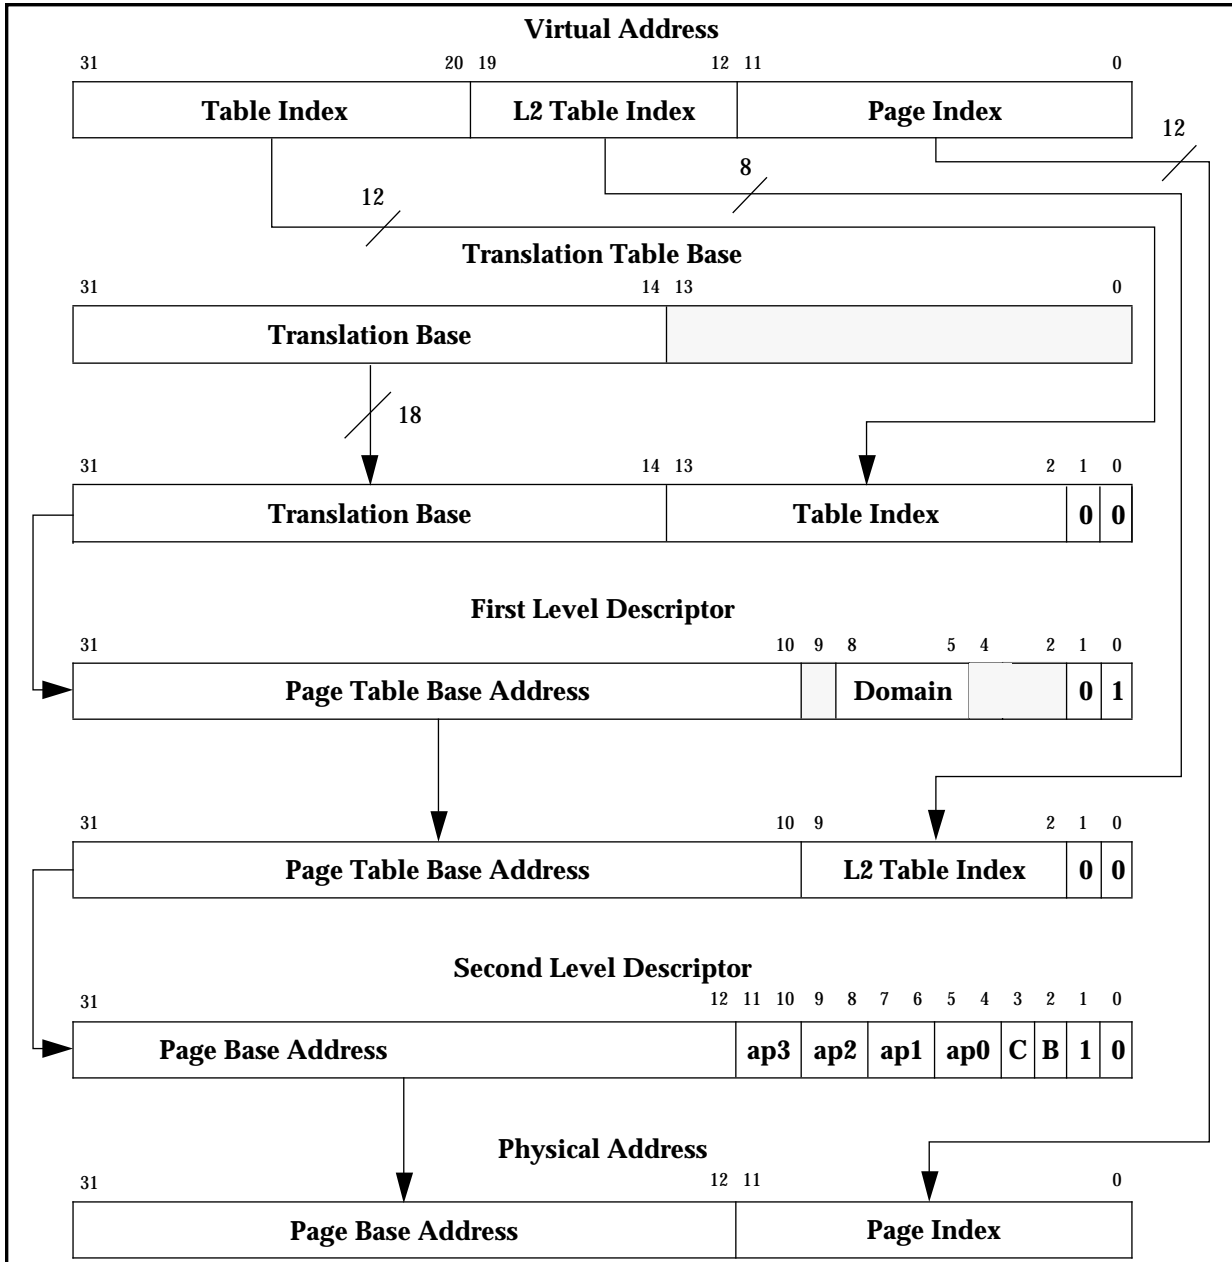
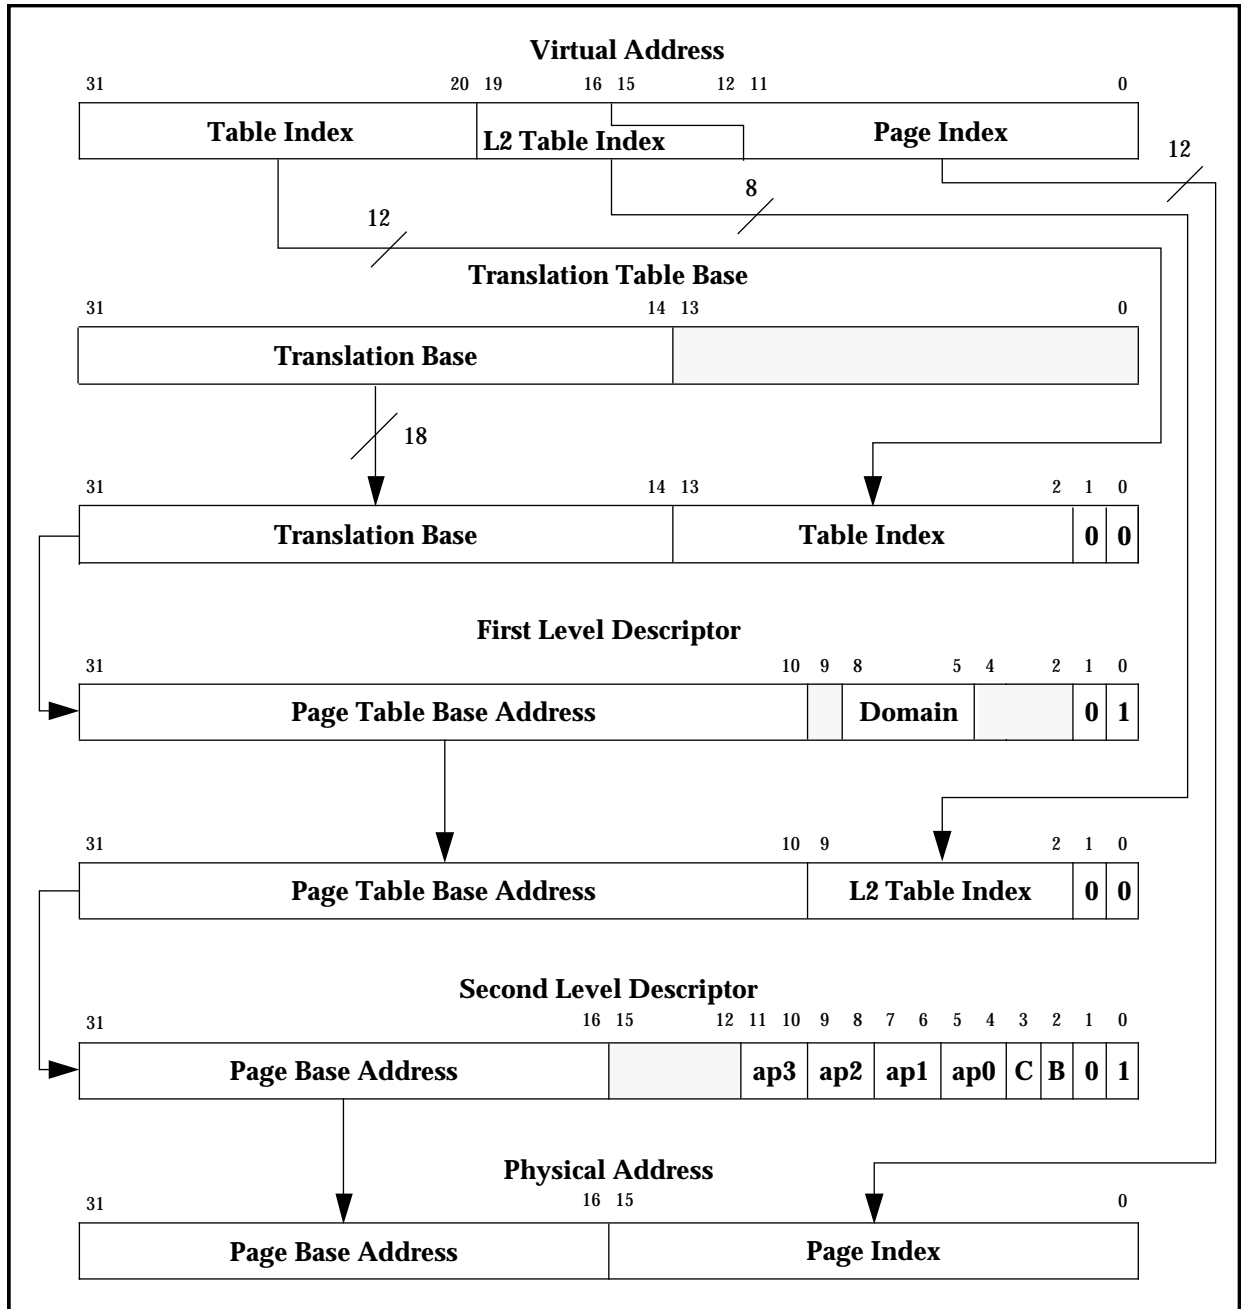

Figure 7-7: *Small page translation*
Figure 7-8: Large page translation
**Bits 31:10** form the base for referencing the Page Table Entry. (The page table index for the entry is derived from the virtual address as illustrated in Figure 7-7: Small page translation on page 7-10).
If the Level One fetch returns a Page Table Descriptor, this provides the base address of the page table to be used. The page table is then accessed as described in Figure 7-7: Small page translation, and a Page Table Entry, or Level Two Descriptor, is returned. This in turn may define either a Small Page or a Large Page access. Figure 7-6: Page table entry \(level two descriptor\) on page 7-9 shows the format of Level Two Descriptors.
**Bits 31:12** (small pages) or bits **31:16** (large pages) are used to form the corresponding bits of the physical address - the physical page number. (The page index is derived from the virtual address as illustrated in Figure 7-7: Small page translation on page 7-10 and Figure 7-8: Large page translation on page 7-11).
Figure 7-7: *Small page translation* illustrates the complete translation sequence for a 4kB Small Page. Page translation involves one additional step beyond that of a section translation: the Level One descriptor is the Page Table descriptor, and this is used to point to the Level Two descriptor, or Page Table Entry. (Note that the access permissions are now contained in the Level Two descriptor and must be checked before the physical address is generated. The sequence for checking access permissions is described later).
Figure 7-8: *Large page translation* illustrates the complete translation sequence for a 64Kb Large Page. Note that since the upper four bits of the Page Index and low-order four bits of the Page Table index overlap, each Page Table Entry for a Large Page must be duplicated 16 times (in consecutive memory locations) in the Page Table.